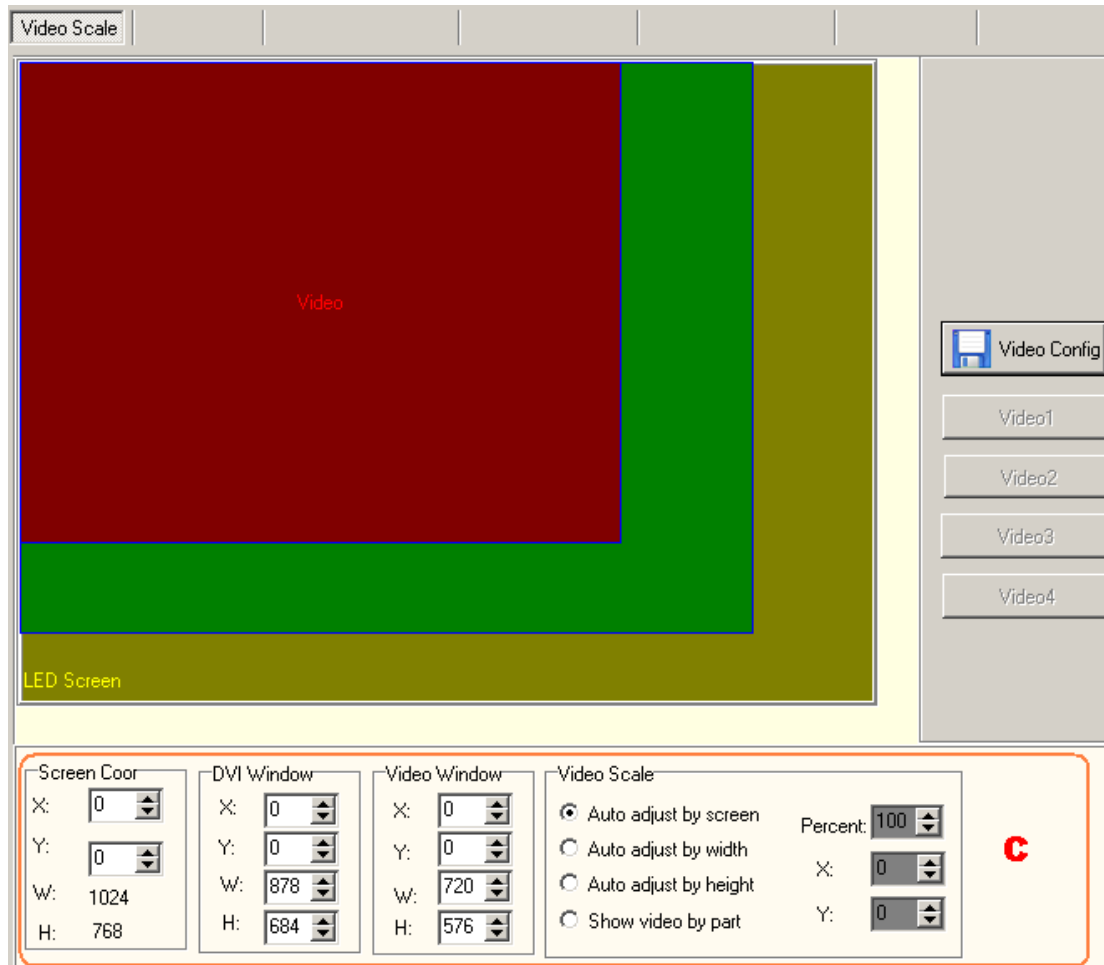

Fig. 32: Video Display Zoom Control Interface
Click "Zoom Control" to switch to the Video Display Zoom Control interface (See Fig. 32)
- Input the value in the "W" & "H" grids directly as shown at area C in Fig. 32 above.
- If the window's width is less or equal to 4, the window will difficult to be dragged. Please adjust the value at the area C in Fig. 32 above to adjust the window size.
- Input the value in the “X” & “Y” grids directly as shown at area C in Fig.. 32 above